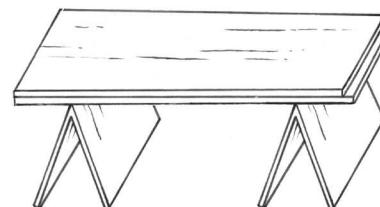
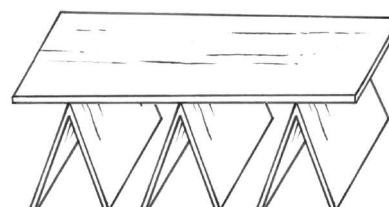

Figure 13
Figure 14
Suppose you have another sheet of corrugated cardboard with which you can make the table stronger. You can add the sheet as a second table top, as shown in Figure 13. Or you can cut the extra sheet in two pieces and make another A-frame support for the middle of the table, as shown in Figure 14.
5. Which way of using the extra sheet will help the most to make the table stronger: the way shown in Figure 13, or the way shown in Figure 14?